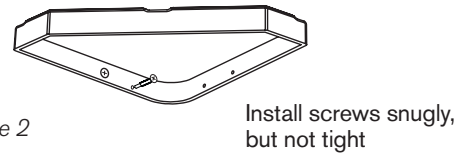

Figure 2
2. Hold the dish on the line you drew and install the screws on that side. Screws should be snug but not tight (*Figure 2*).